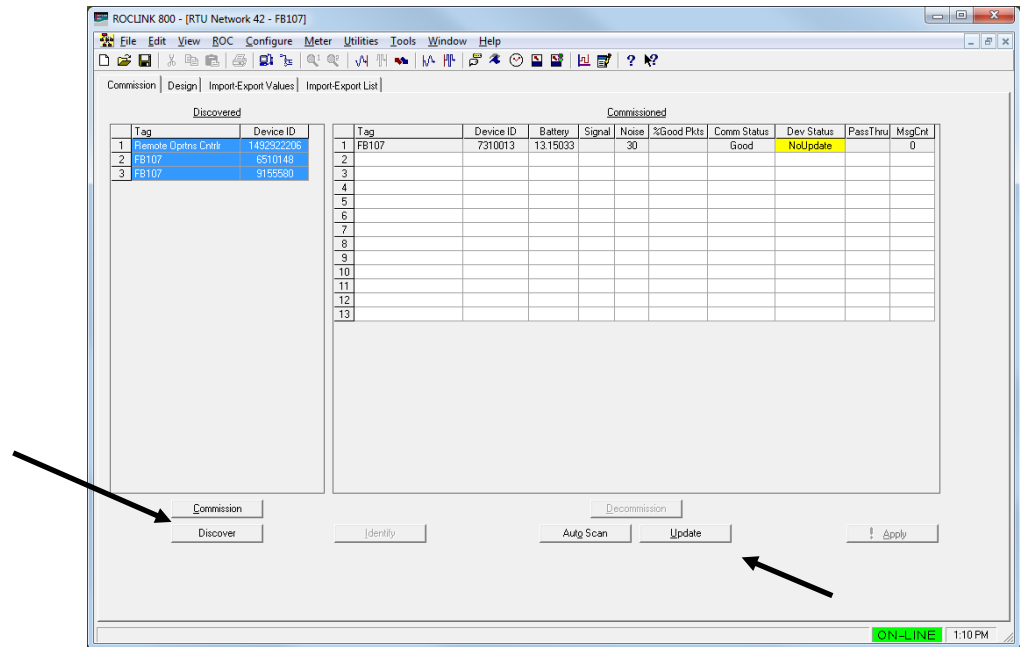

Figure 3-11. Nodes Selected for Commissioning
1. Left-click a device to select it. To select multiple devices, press CTRL and left-click each device. If you are commissioning more than one device, your screen might look like *Figure 3-11*.